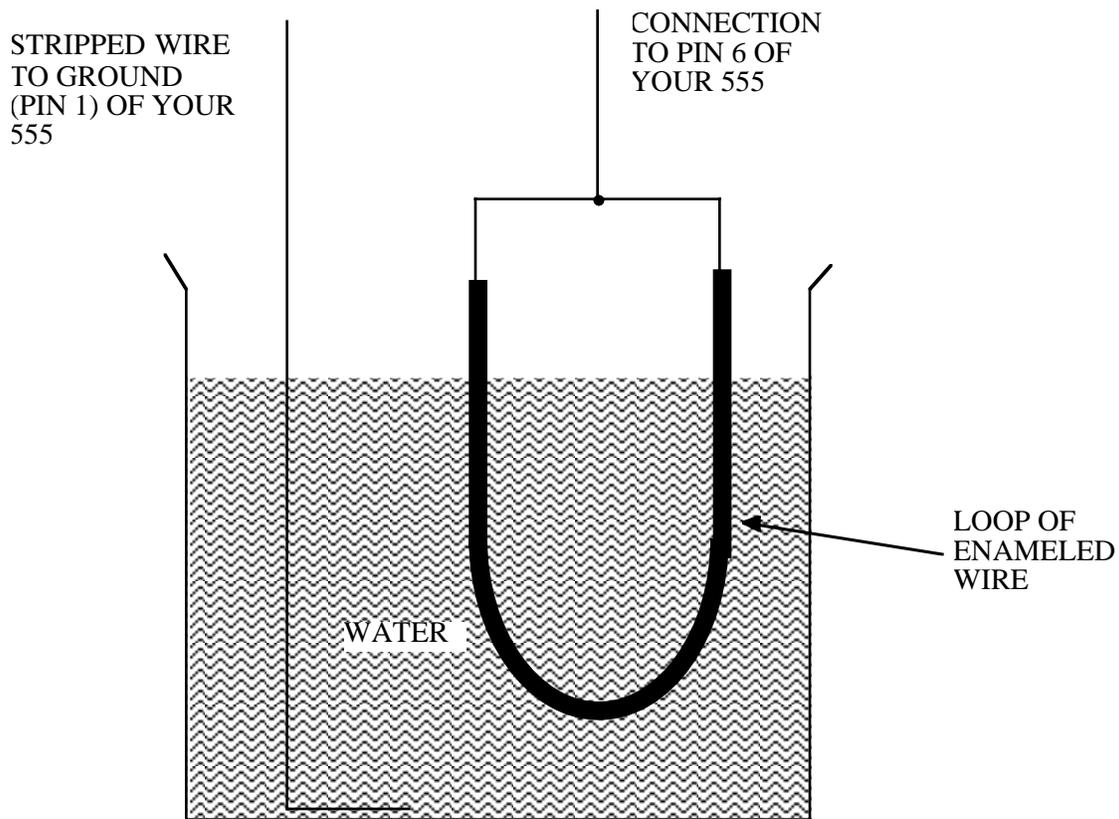

Figure 6. Home made capacitor for water level sensor
- (b) You will now replace C with a homemade capacitor consisting of two connections to a beaker of water. One connection will connect the circuit ground to the water. This can be a simple wire with the end stripped bare. Bend the wire near the end to get an L as shown in Figure 6 (The L shape helps hold the wire in the water and gives a better signal). Place the bent, bare end in the water. The other lead will be made from 10-20 inches of enameled wire — this is thin wire covered with a thin insulating varnish (paint). You may have to sand or scrape the ends of the wire to get a good electrical connection to your circuit. This is not as easy as it sounds! Be sure that no bare metal from this second wire comes in contact with the water. Fold
- this wire into a loop and place it into a beaker partially filled with water. Connect the two bare ends of this wire together and to your circuit as shown in Figure 6.